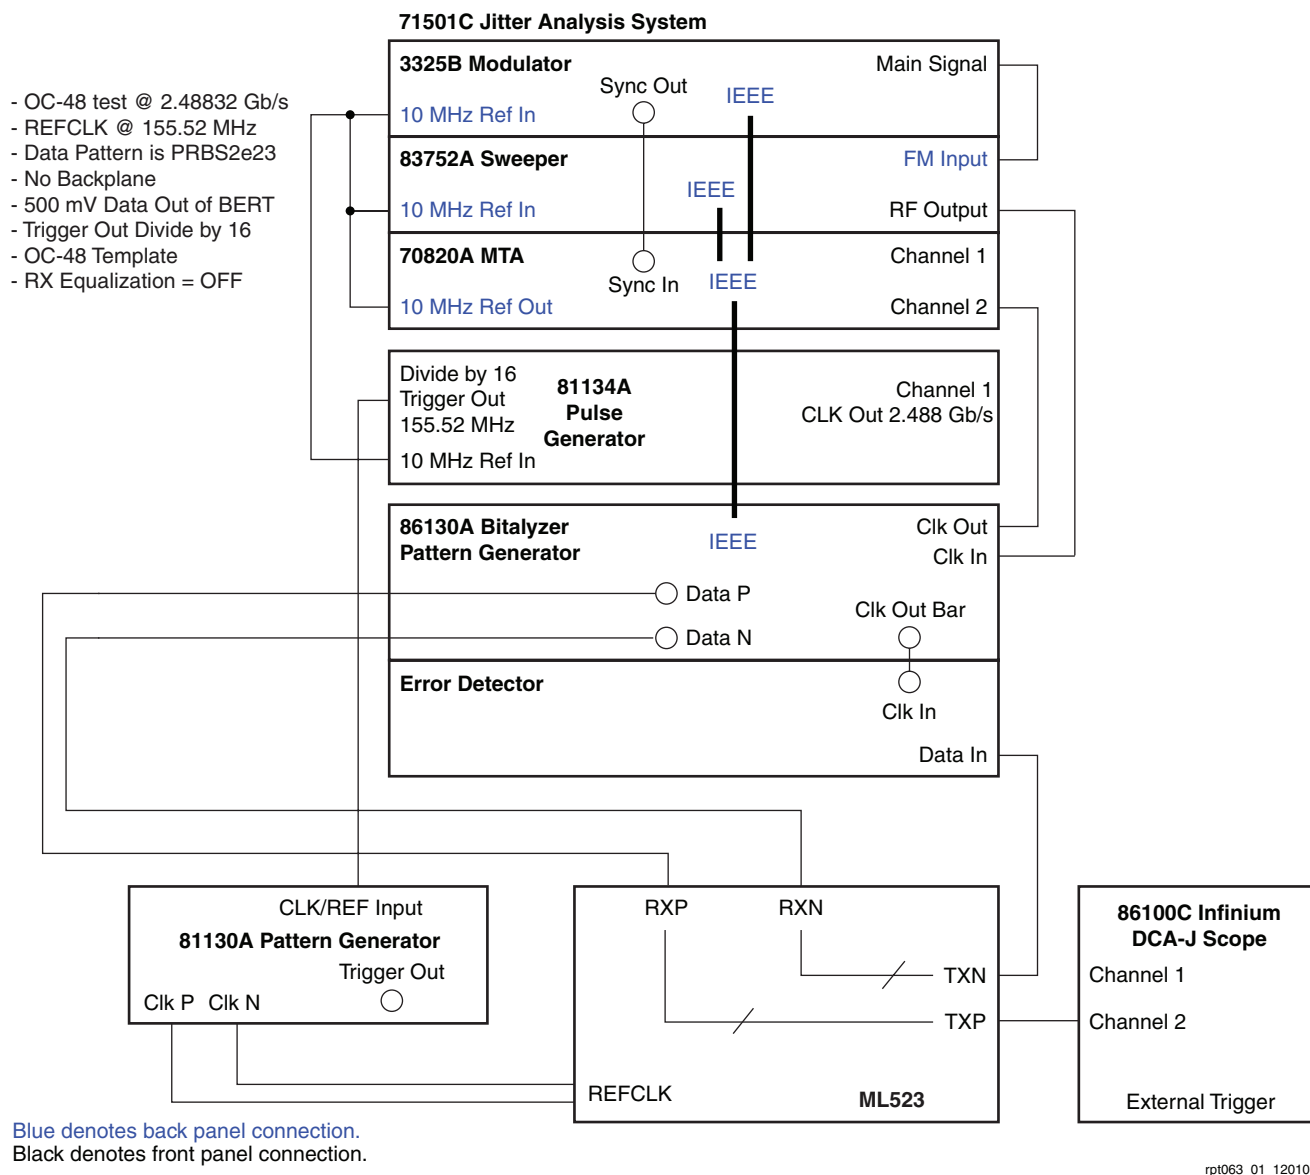

Figure 1: OC-48 Sinusoidal Jitter Tolerance Setup
Sinusoidal jitter (SJ) tolerance measurements at 2.48832 Gb/s, the OC-48 data rate, are performed using the test setup as shown in Figure 1.